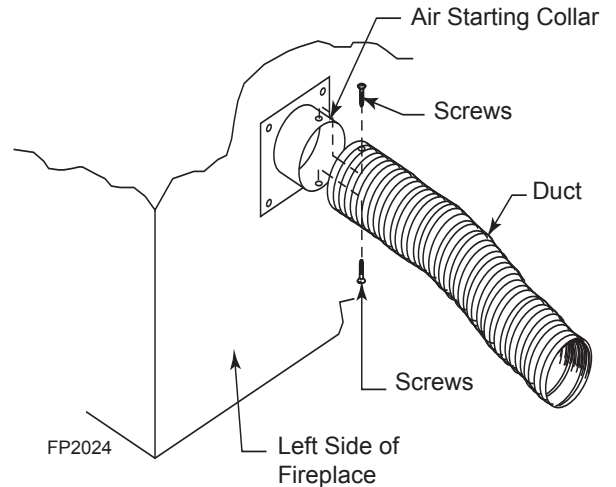

Figure 13 - Attach Outside duct to Starting Collar
4. Select and cut a piece of duct long enough to attach to the fireplace and stick out at least 3" beyond the face of the wall to which the OAC-4 inlet air vent will be attached. Cut duct with a standard pocket knife. *Figure 13*